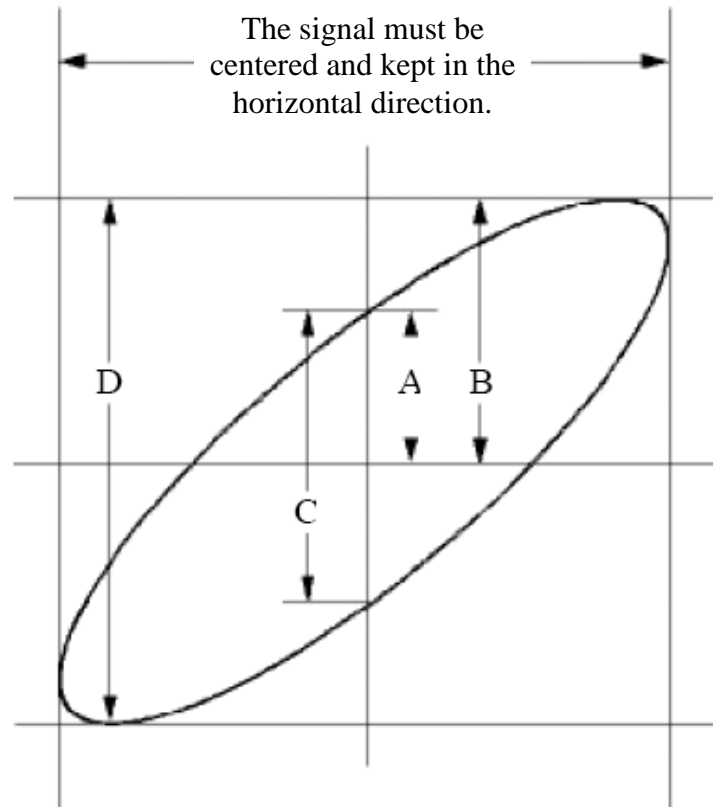

Figure 6-6 Lissajous Graph
- (1) Set the probe menu attenuation coefficient for **10X** and that of the switch in the probe for **10X** (see "How to Set the Probe Attenuation Coefficient" on P12).
- (2) Connect the probe of channel 1 to the input of the network and that of Channel 2 to the output of the network.
- (3) Push the **Autoset** button, with the oscilloscope turning on the signals of the two channels and displaying them in the screen.
- (4) Turn the **Vertical Scale** knob, making the amplitudes of two signals equal in the rough.
- (5) Push the **Display** button and recall the Display menu.
- (6) Select **XY Mode** in the bottom menu. Select **Enable** as **ON** in the right menu. The oscilloscope will display the input and terminal characteristics of the network in the Lissajous graph form.
- (7) Turn the **Vertical Scale** and **Vertical Position** knobs, optimizing the waveform.
- (8) With the elliptical oscillogram method adopted, observe and calculate the phase difference (see *Figure 6-6*).